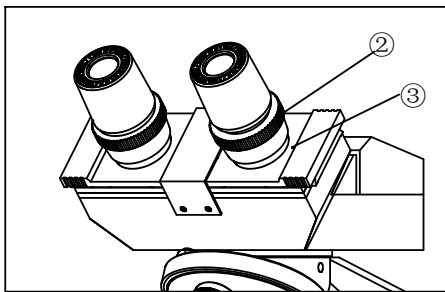

Fig.23
3.3.7 Adjusting the Diopter (Fig.23)